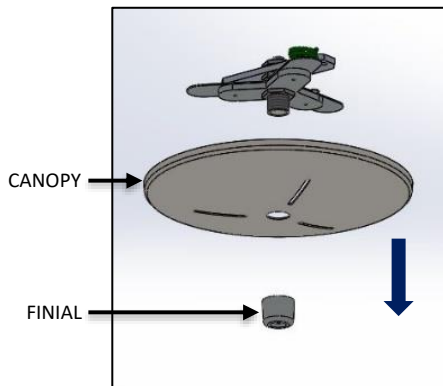
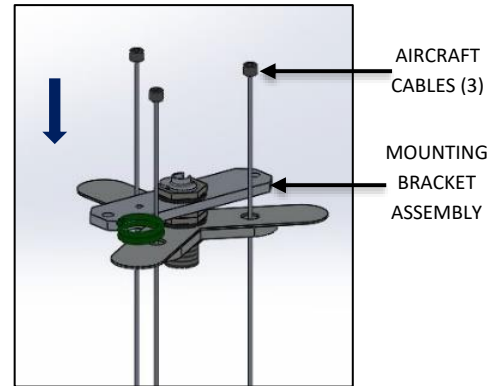

FIG. 15 – CANOPY DIS-ASSEMBLY
FIG. 16 – AIRCRAFT CABLE INSTALLATION
- Loosen the CANOPY FINIAL and remove CANOPY as shown in FIG. 15. Be careful not to scratch finish, and Feed the AIRCRAFT CABLES (3) through the holes of MOUNTING BRACKET ASSEMBLY as shown in FIG. 16.